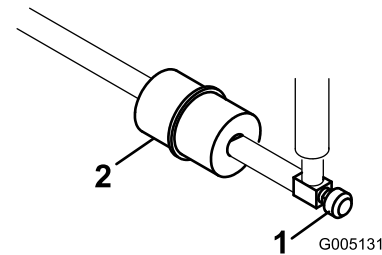

Figure 36
The in-line fuel filter is in the fuel line between the fuel tank and carburetor (Figure 36).
- Close the fuel-shutoff valve (Figure 36).
- Place a drain pan under the filter, loosen the hose clamp on the carburetor side of filter, and remove the fuel line from the filter (Figure 36).
- Loosen the other hose clamp and remove the filter (Figure 36).